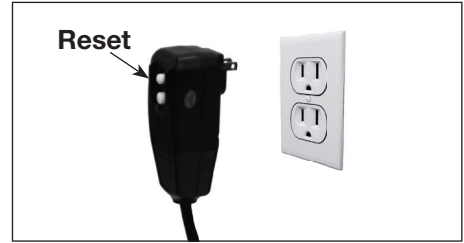

Figure 10 - Grounded plug/reset button
5. Plug the power cord into a grounded 120V outlet, that is on a dedicated circuit. Do not use extension cord. Press the reset button on the GFCI plug adapter. This must be done each time the unit is plugged into an outlet. (Figure 10)